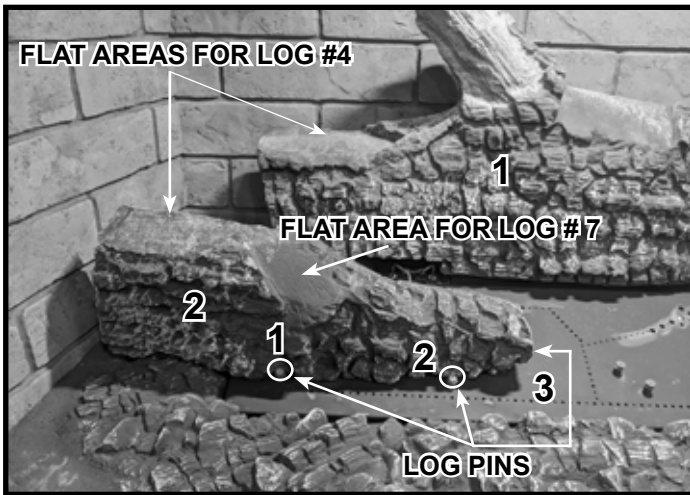
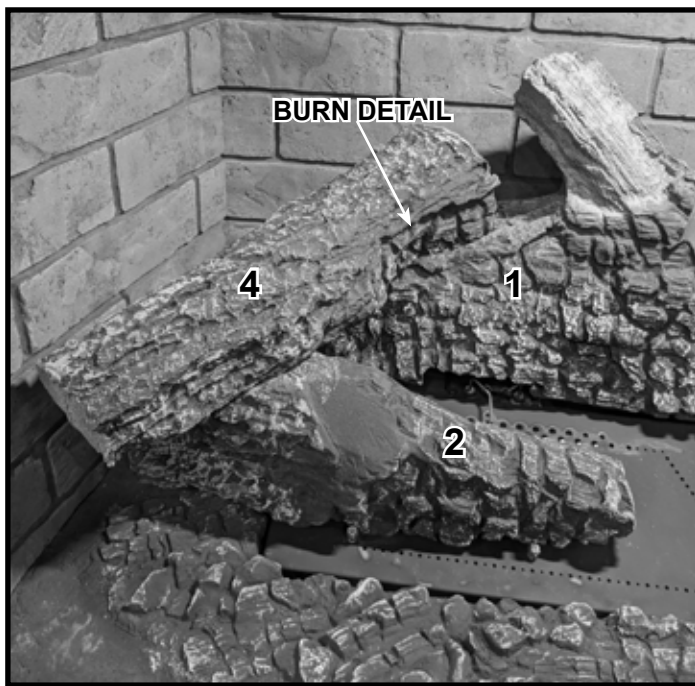

Figure 6 Position Log #2
Figure 8 Place Log #4
**Log #2:** Place Log #2 using the three log pins as shown in Figure 6.
**Log #4:** Place Log #4 with the end that shows burn detail on the flat area located on Log #1. Place the other end on the flat area on Log #2 as shown in Figure 8. For reference, flat areas are shown in Figure 6.